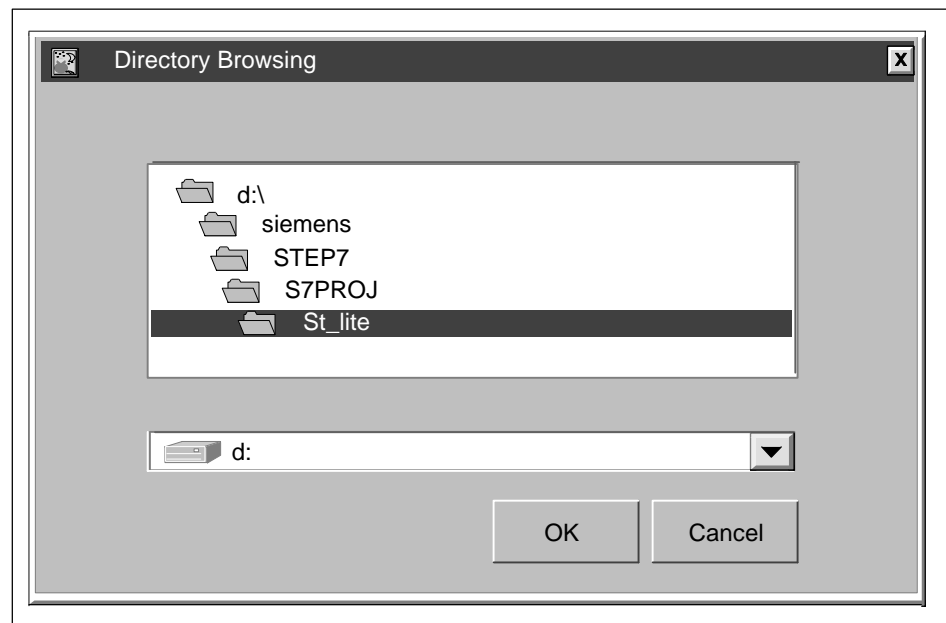

Figure 2-19 Transfer Utility: Browse
2. Click on the **Browse** button. The Browse dialog box appears (Figure 2-19).